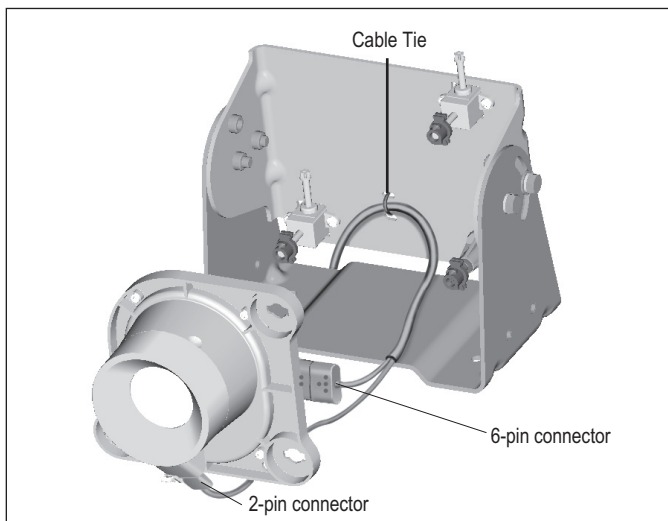

FIGURE 32 - CONNECTING THE CAMERA HARNESSSES
19. Plug the 2-pin connector of the IR camera harness into the window heater. Refer to Figure 32.
20. Plug the 6-pin connector of the IR camera harness into the IR camera connection. Refer to Figure 32.